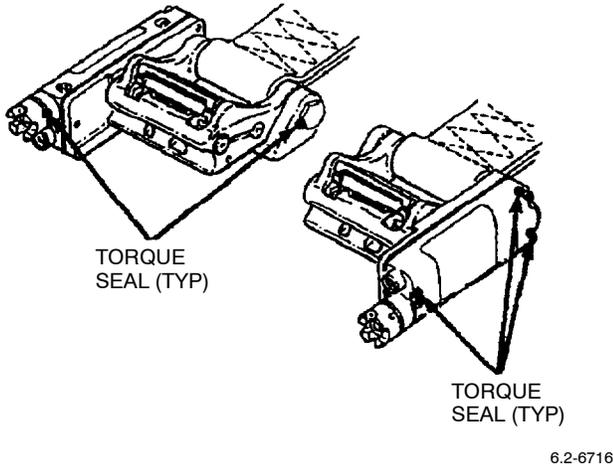

Figure 51. Application of Torque Seal
a. Apply torque seal to the plug, sensor plug and EPA attaching screws (Figure 51).